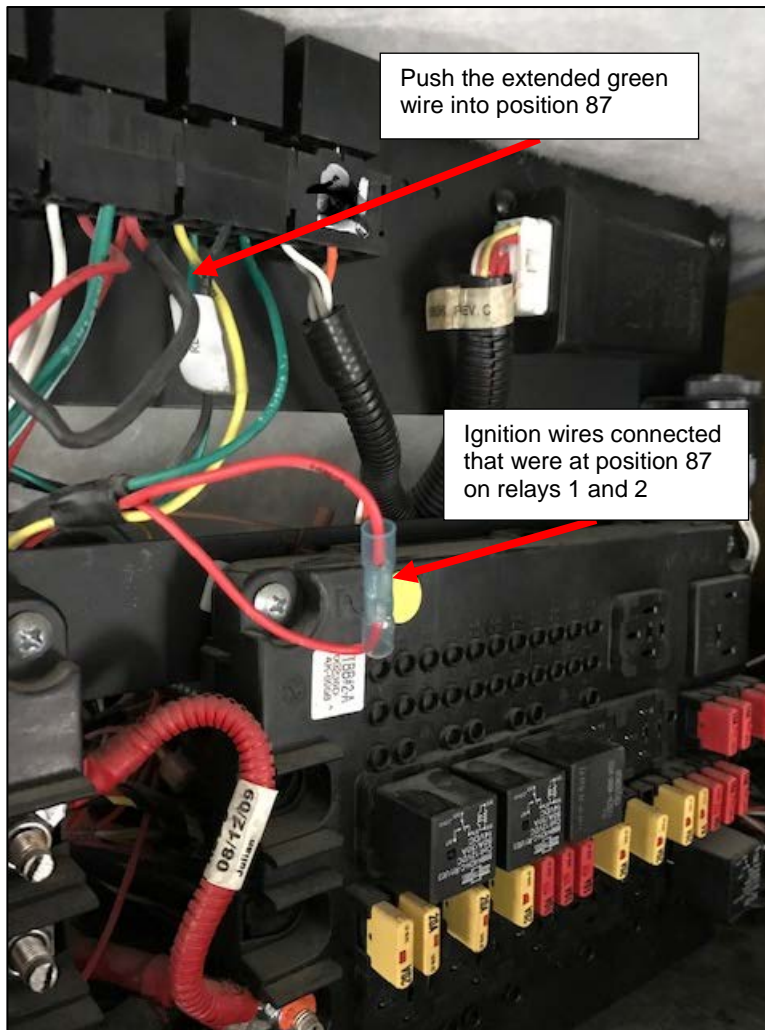

Figure 5: Connections at Relay
3. On relay 1 on the lift harness (on the metal mounting plate of the PC board), remove the ignition wire from position 5, which is 87 on the relay. See **Figure 5** for position and conversion of the relay block.